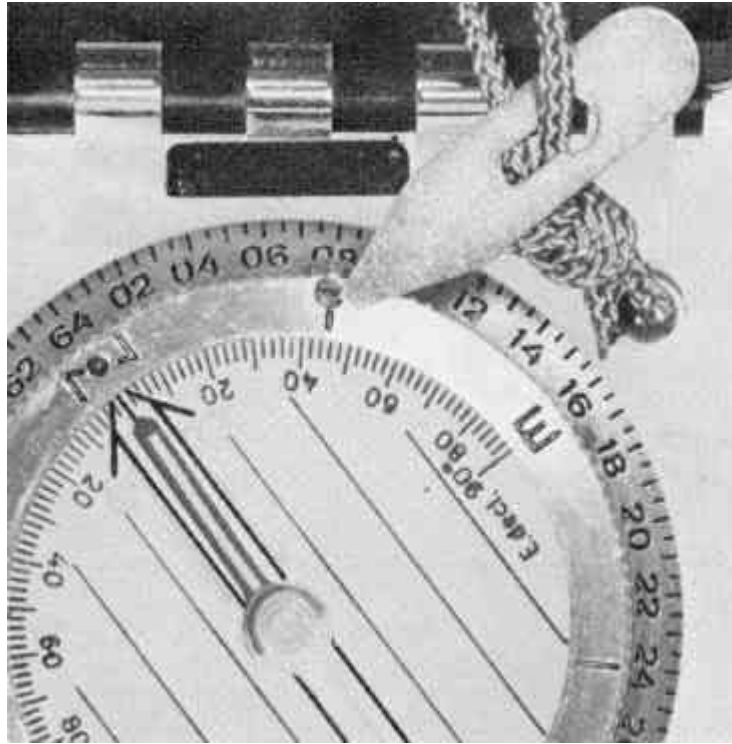

Figure 8-5 Declination Mechanism
- b. Move the orienting arrow to the desired setting on the declination scale by means of turning the adjusting screw located on the compass dial. See Figure 8-5.